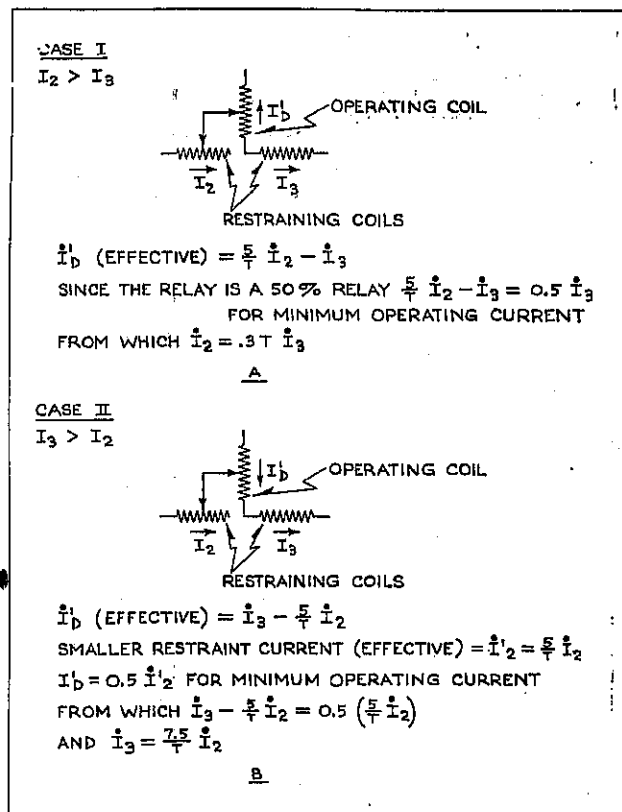

Fig. 6—Fundamental Relationships in the Type CA Electro-magnet.
The derivations of equations (1) and (2) are given in Figure 6, which has been included to illustrate the meaning of these equations.